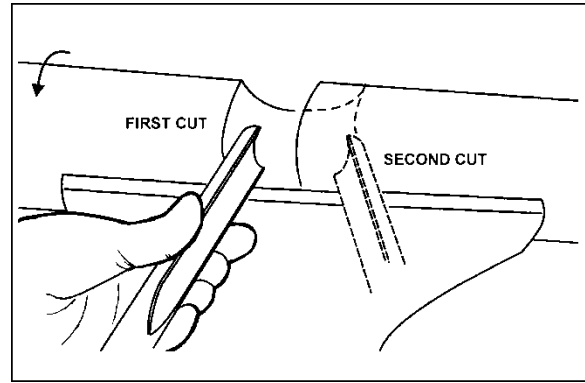

Figure 24
- Use a spindle gouge. With the flute of the tool at 90 degrees to the workpiece, touch the point of the tool to the workpiece and roll in towards the bottom of the cove. See Figure 24. **Stop at the bottom; attempting to go up the opposite side may cause the tool to catch.**